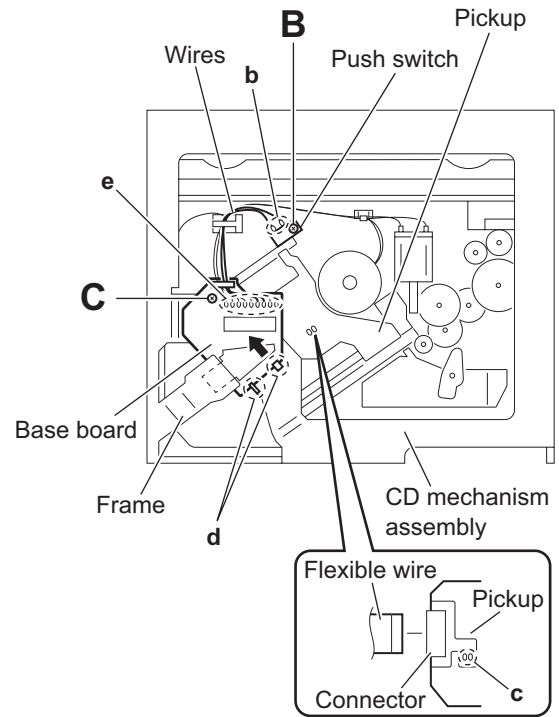

Fig.3
(See Figs.3)
(See Figs.3 and 4)
Solder the short land **c** before the flexible wire is disconnected from the connector on the pickup. If the flexible wire is disconnected without applying solder, the pickup may be destroyed by static electricity. (See Fig.3.)
- (1) From the bottom side of the CD mechanism assembly, remove the screw **C** attaching the base board. (See Figs.3 and 4.)
- (2) Solder the short land **c** on the pickup. (See Fig.3.)
- (3) Disconnect the flexible wire from the connector on the pickup. (See Fig.3.)
- (4) Remove the base board from the joints **d** of the frame in the direction of the arrow. (See Figs.3 and 4.)
Remove the wires from the soldered sections **e** on the base board as required. (See Fig.3.)
When reattaching the base board, be sure to remove solder from the short land **c** after connecting the flexible wire. (See Fig.3.)